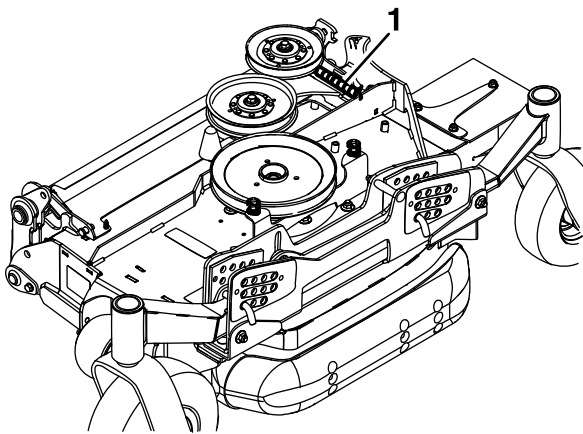

Figure 87
- 23. To ease installing the wing deck sections, carefully remove the exposed end of the spring that applies pressure to the rear of the wing deck cover (Figure 87).